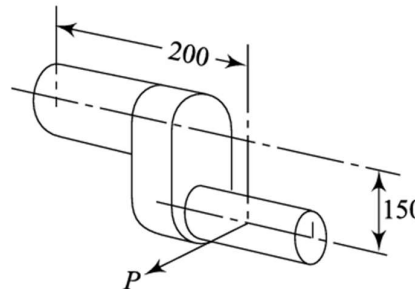

Figure 1
- Q.1(b) A load $P = 44 \text{ kN}$ is applied to a crankshaft at a distance of 200 mm from the bearing (Figure 1). The shaft is made of 30C4 steel with $S_{yt} = 276 \text{ MPa}$. Using the factor of safety of 2 and maximum shear stress theory, find the diameter of the shaft.